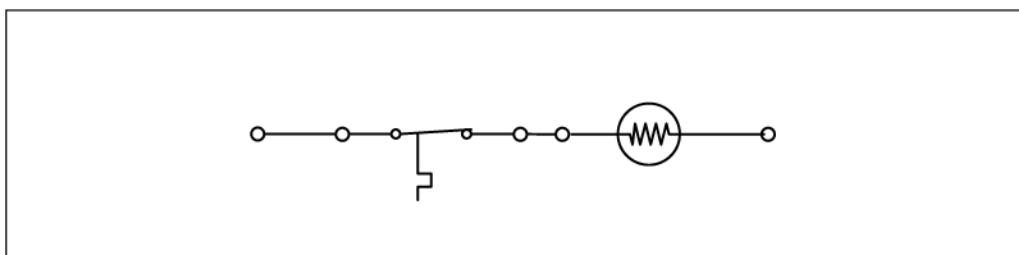

Figure 2
- b. In series with the blower motor’s 115 VAC neutral wire as shown in Figure 2.